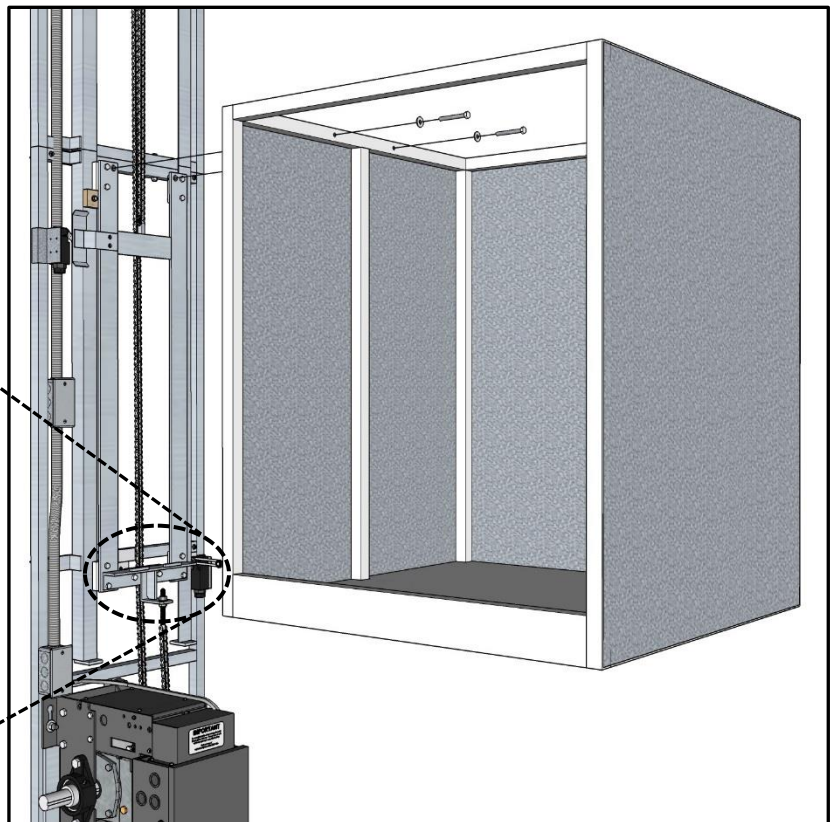

Figure 31
- 2 Use provided bolts ($\frac{1}{4}$ "-20 x $1\frac{3}{4}$ ") & washers to secure dumbwaiter car to trolley. (see Figure 31)